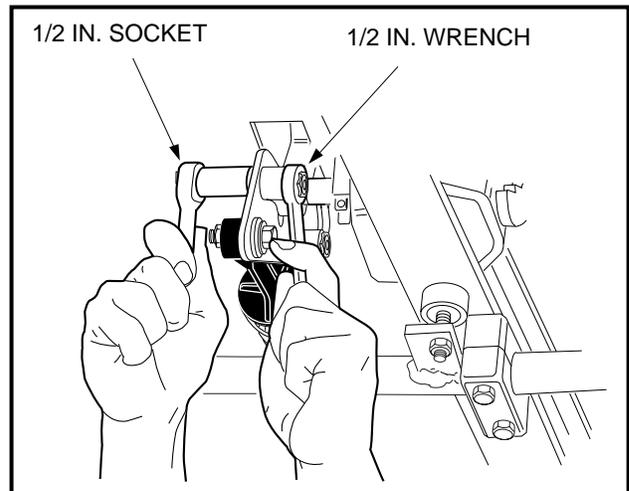
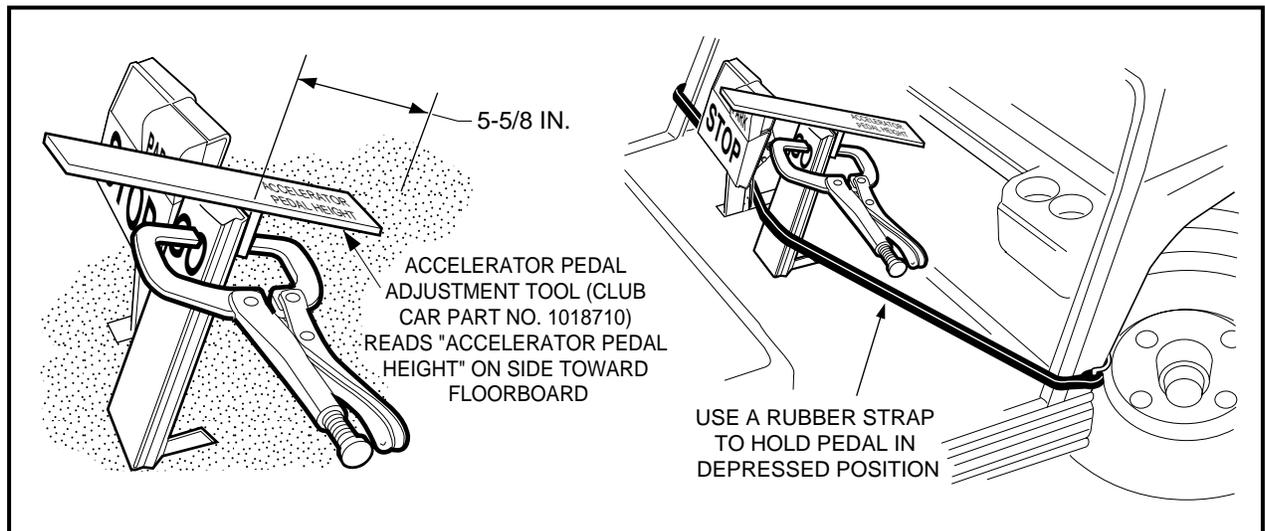

Figure 5-8 Accelerator Pedal Height Adjustment
Figure 5-9 Accelerator Pedal Height Adjustment
- 3.1. Loosen the nut and bolt (**Figure 5-8, Page 5-5**) securing the accelerator pedal to the pivot plate. Clamp the accelerator pedal adjustment tool (Club Car Part No. 101871001) to the accelerator pedal, with the end marked **accelerator pedal height** toward the floorboard, then depress the accelerator pedal until the end of the tool rests against the floorboard (pedal height should be 5-5/8 in.). Use a rubber strap to hold pedal in position against the floorboard and then tighten nut to 26 ft.lb. (35.3 N-m) (**Figure 5-9, Page 5-5**).